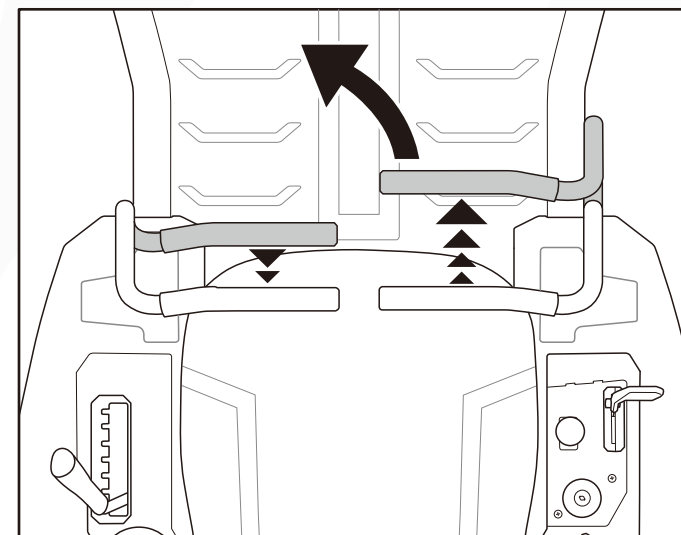

Fig. 16B
2. To turn to the left, move the left drive control lever rearward of the right lever. (Fig. 16B)